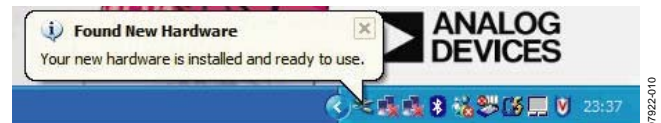

Figure 10. New Hardware Is Ready to Use Message
- The **Found New Hardware** message appears, alerting you that your new hardware is installed and ready to use (see Figure 10).